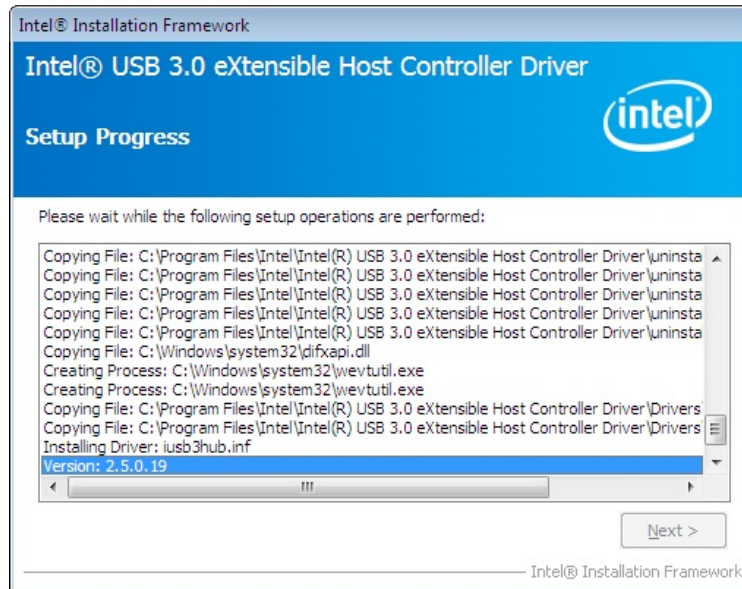

Figure 6-23: USB 3.0 Driver Setup Operations
Step 11: Setup Operations are performed as shown in Figure 6-23.